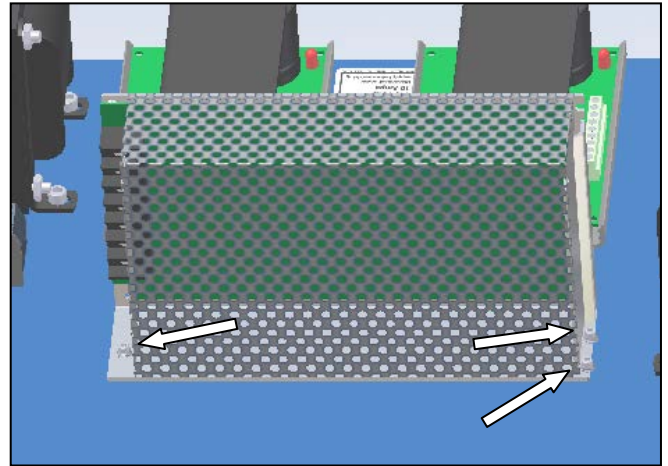

Figure 3-34. Power Supply screw locations
4. Remove the three screws holding the Power Supply to the frame. (Figure 3-34).